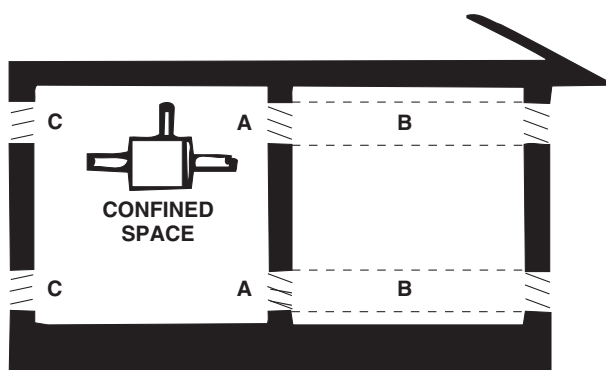

Figure 4. Confined Space Combustion Air Openings (Refer to Table 8)
- For confined space installation of UBX and UDX models (including those with CV option), provide openings (depending on the combustion air source) near the floor and ceiling for ventilation and air for combustion, as shown in Figure 4 and as listed in Table 8.
\*See Figure 4.